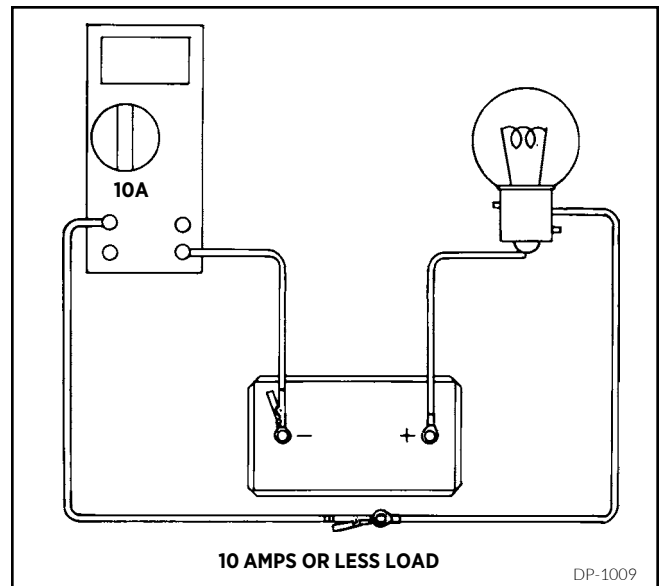

FIGURE 1-4. In-Line Digital Ammeter
1-19. AMMETER USE. Figures 1-4 through 1-6 illustrate the use of various types of ammeters.
1. Figure 1-4 illustrates the use of an in-line digital ammeter. Note that the circuit must be disconnected in order to use this type of meter. The type of unit shown is an internal shunt and generally used for loads of 10 amps or less. Care must be taken to not measure current greater than the meter rating. This type of ammeter is not recommended for most of the measurements described in this manual. However, if this is the only type available, be sure to follow the meter manufacturer's instructions for connection and use.